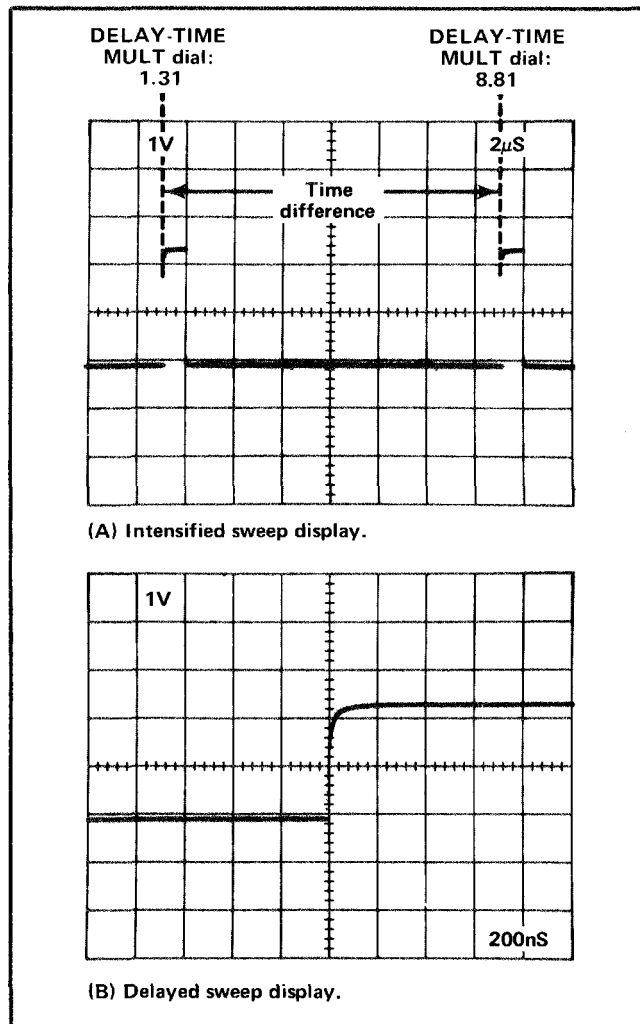

Fig. 1-15. Measuring time difference using delayed sweep.
**Example.** Assume the first dial setting is 1.31 and the second dial setting is 8.81 with the TIME/DIV OR DLY TIME switch set to 2 microsecond (see Fig. 1-15).